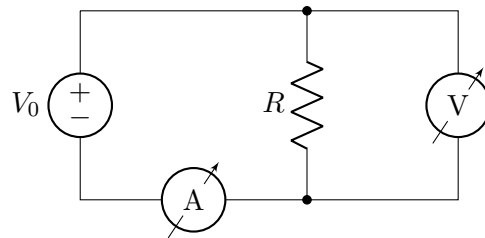

Figure 2: Circuit to measure  $I$  and  $V$  for a resistor
1. Build a circuit to measure the voltage across and current through an  $R = 40\ \Omega$  resistor as shown in Fig. 2. Use the digital multimeter to measure the voltage. For the current meter, use the second digital multimeter set to DC I. You will need to use the input jacks labeled "10 A" (+) and "INPUT LO" (-).